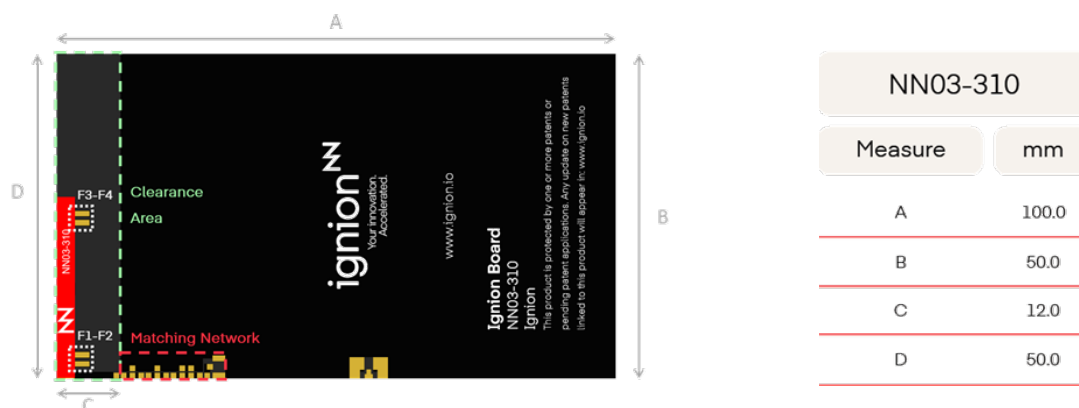

Figure 2 – PCB layout from the Antenna Intelligence Cloud™.
5. **Transmission line and RF chip:** Design your transmission line connecting the matching network to your RF chip (see scheme connecting in Figure 2) so that its characteristic impedance is 50Ω. The output impedance of your RF chip must feature 50Ω as well. Locate your RF chip as close as possible to the matching network to reduce the losses introduced by the transmission line.